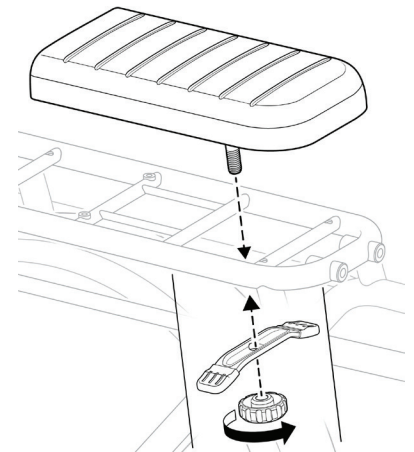

Figure 1 Position deckpad, seat clamp and wingnut on rack.
3. **Position the deckpad.** Place the deckpad on the front or rear half of the rear rack so that the mounting bolt fits through the rack openings (see Figure 1).